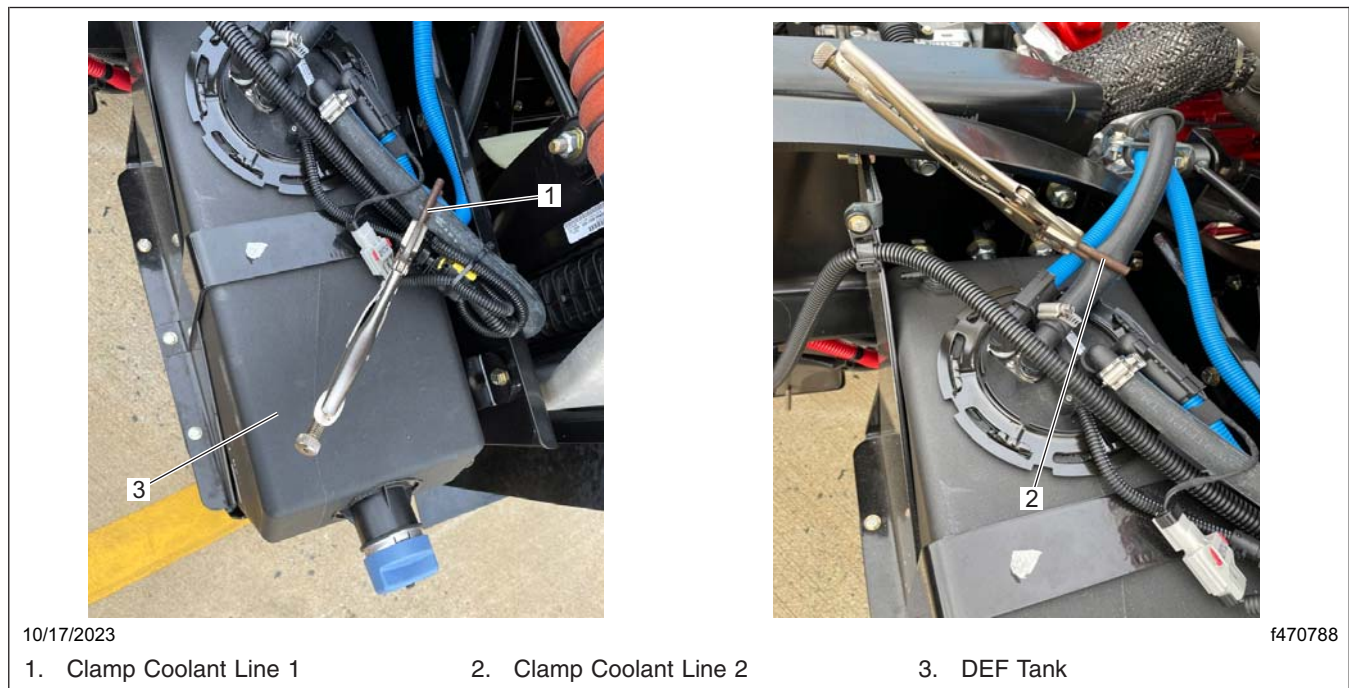

Fig. 3, Location of the DEF Tank Coolant Lines
8. Working through the DEF tank-side door, place clamps on the DEF tank coolant lines, to prevent any leakage. Store any residual coolant in a clean container. See Fig. 3.
9. Remove the coolant lines from the supply and return ports as shown in Fig. 3.